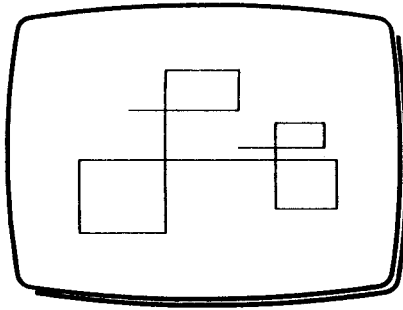

Fig 3
- 2 Draw a number of lines and boxes as in Fig 3. They are all perfectly right angled, which is a very useful feature, don't worry if the joins are not exact - there is another lock function for this.